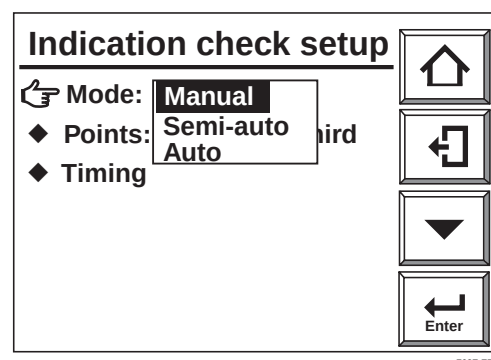

Fig. 10.9 Indication Check Mode Selection
- 2) From the Maintenance display, select [Indication check setup] then [Mode]. A dropdown menu opens, allowing you to select between Manual, Semi-auto, or Auto modes (see Figure 10.9).